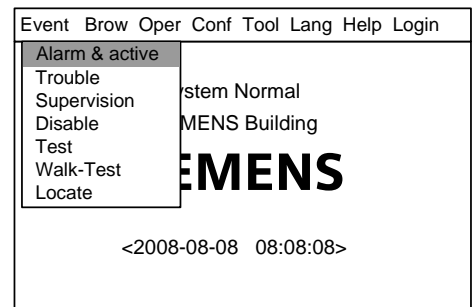

Fig.20-1
1. Press "Menu" to browse the main menu (Fig. 20-1)